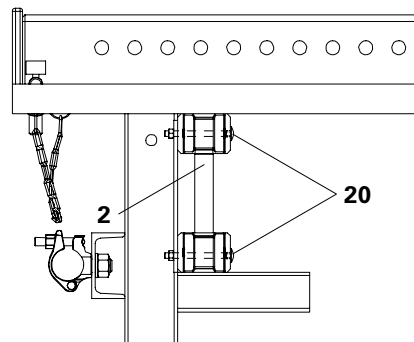

Fig. A1.09
(Fig. A1.09 + A1.12)
- F. H. Bolt DIN 603 M8 x 100, MU (20)
- Lattice Girder GT 24 (2) (Fig. A1.09)